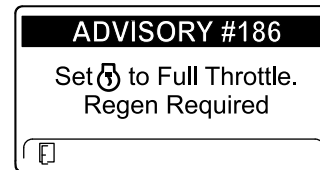

Figure 45
**Note:** If the engine exhaust temperature is too low, the InfoCenter displays ADVISORY #186 (Figure 45) to inform you to set the engine to full throttle (high idle).